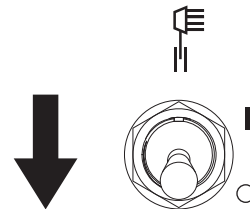

Figure 3-5. Lights OFF (O)
4. See Figure 3-5. Switch lights to OFF (O).